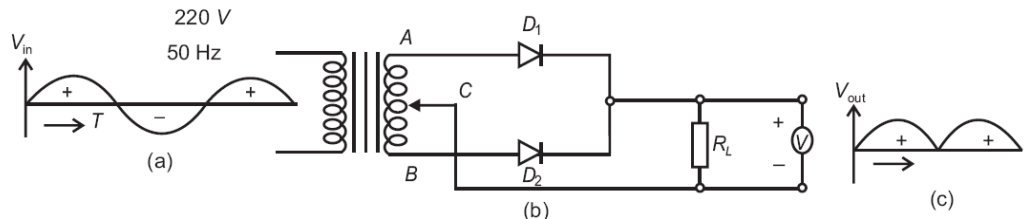

Fig. 10.2: a) Input ac signal; b) full-wave rectifier; c) rectified output signal.
Since the two diodes have a common-cathode load resistor R_L , the output voltage across R_L results from the alternate conduction of D_1 and D_2 . So, during the entire input cycle, either D_1 or D_2 conducts current so that the output voltage takes the form shown in Fig. 10.2.
2. Make the circuit connections for the full-wave rectifier as shown in Fig. 10.2. You can use breadboard for connecting the circuit components.